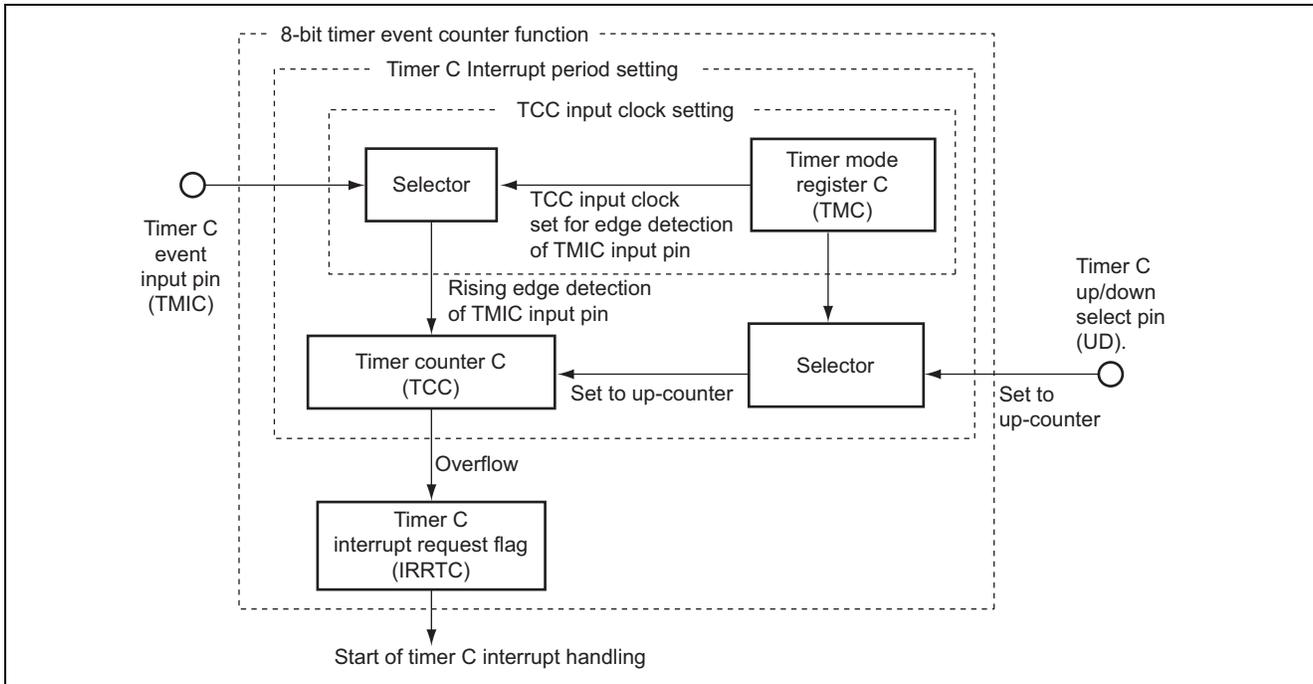

Figure 1 Block Diagram of Timer C Event Counter Function
- a. The block diagram of the Timer C 8-bit event counter function is shown in figure 1 and is described below .